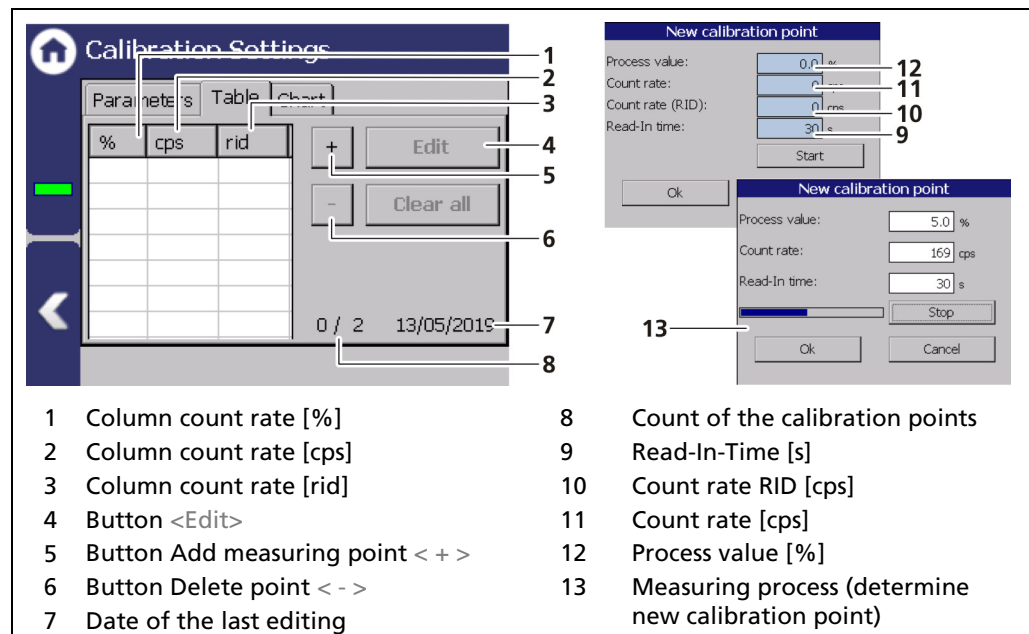

Fig. 81 Calibration parameters (Table 2 Point Exp. calibration type)
- Click on the button < + > (Fig. 81, item 5).
- The window "New calibration point" (Fig. 81, item 9-12) opens.
- Click on the input field "Process value" (Fig. 81, item 12) to open the input field.
- Click on the input field "Read-In Time" (Fig. 81, item 9) to open the input field.
- The Window "New calibration Point" (Fig. 81, item 13) opens and the count rate is determined.